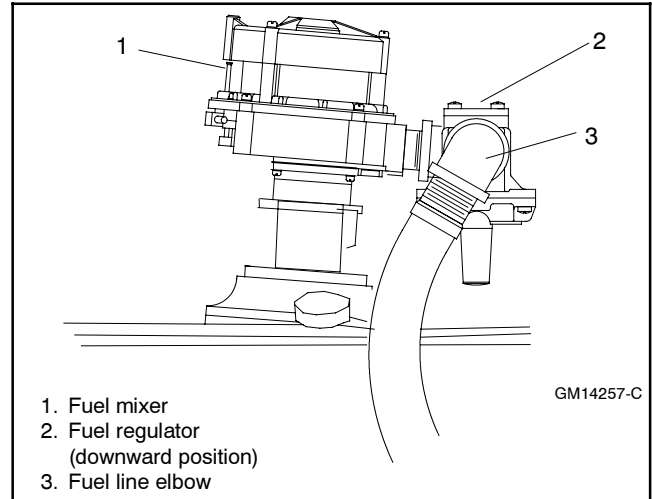

Figure 4 Fuel Mixer, Typical
- 2.4 Place the fuel mixer on the throttle with the existing gasket and install the four screws. See Figure 4.
- 3.1 Rotate the fuel regulator to a downward pointing position as shown in Figure 4.